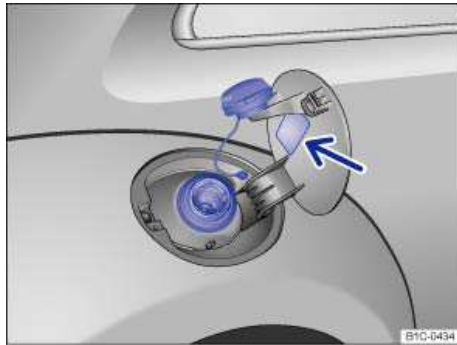

Fig. 135 Fuel cap placed on the open fuel filler flap.
- Unscrew the fuel cap counterclockwise and remove. Use the slot on the filler flap to hold the cap while refueling => fig. 135.
⇒ fig. 135.